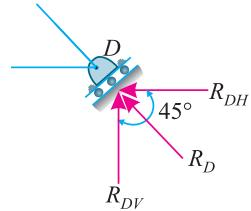

Fig. 12.34.
**Solution.** Since the truss is supported on rollers at  $D$ , therefore the reaction at this support will be normal to the support i.e. inclined at  $45^\circ$  with the vertical (because the support is inclined at an angle of  $45^\circ$  with the horizontal) as shown in Fig. 12.34. The reaction at  $A$  will be the resultant of vertical and horizontal forces.